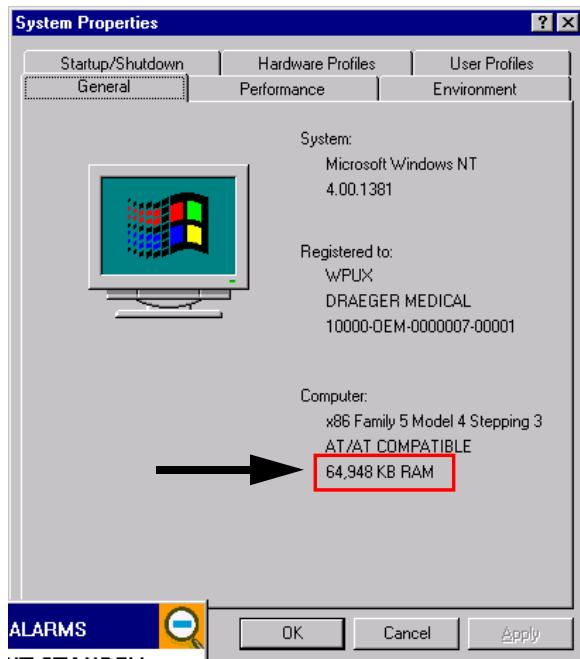

FIGURE 3. System Properties
- 1.8 On the System Properties dialog, select the 'General' tab. Identify the amount of system RAM. If the amount of RAM is less than 64,000 kB, the system requires a RAM update. Refer to the location identified by the box shown in FIGURE 3.